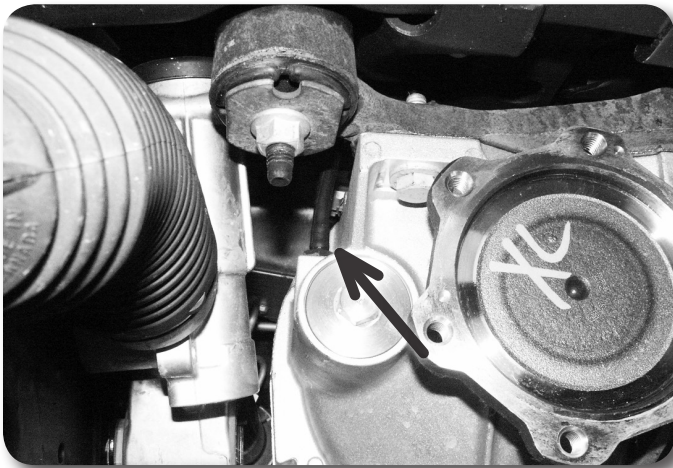

Figure 11
18. Disconnect the differential breather hose Figure 11.